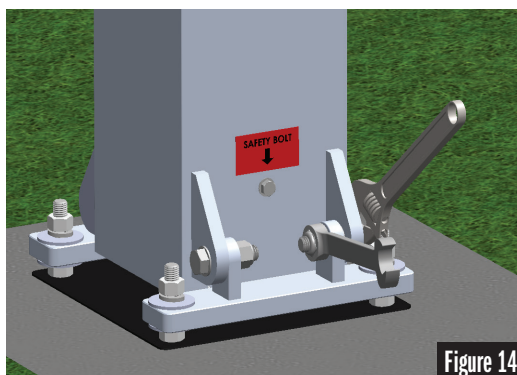

Figure 14
- Tighten the pivoting hinge bolts to mitigate movement in system. See Figure 14.